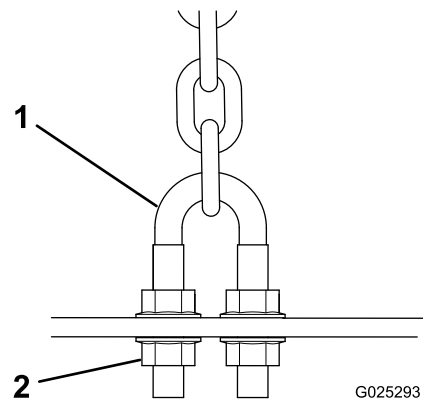
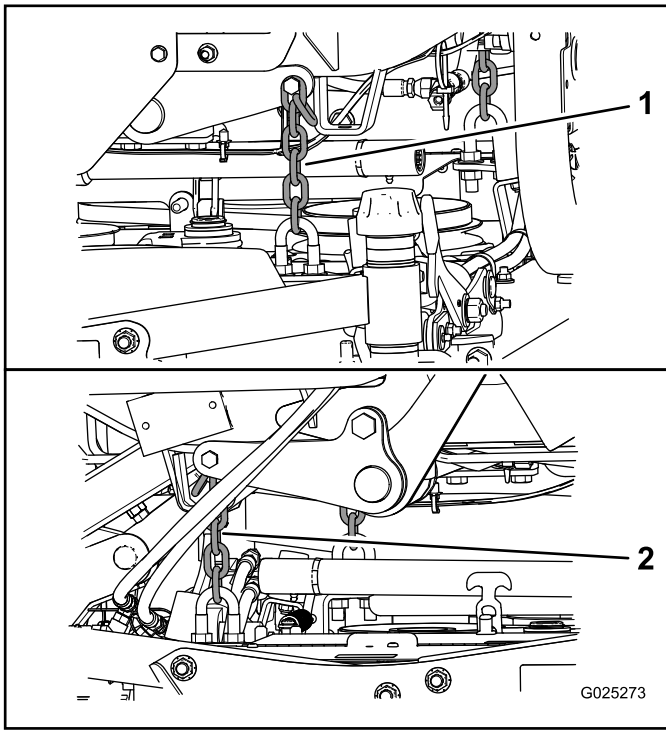

Figure 11
Figure 12
7. Adjust the U-bolt jam nuts (Figure 11) securing the rear deck chains (Figure 12) to the mower deck to raise the rear of the mower so that the blade pitch is set to 8 to 11 mm (5/16 to 7/16 inch).
8. Adjust the jam nuts securing the deck chains to the mower deck until the mower deck is level (Figure 12).